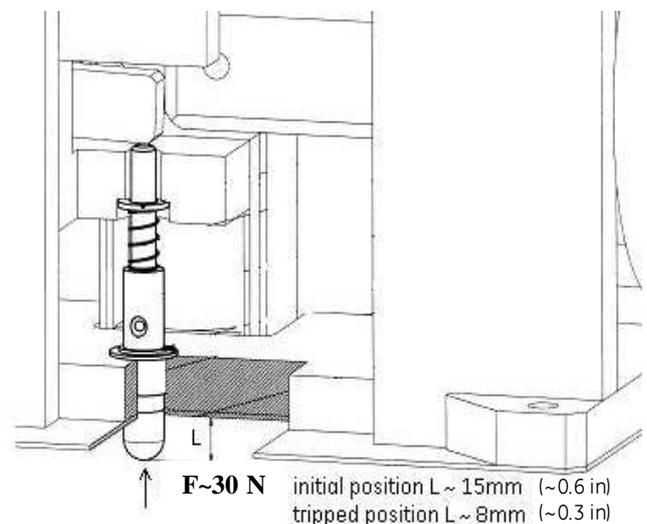

Fig. 10a Forced tripping release
- Optionally, the forced tripping release (FT) can be installed in the breaker [Fig. 10a]. This unit mechanically trips the breaker, by pressing the pin against the bottom plate. Force required to trip the breaker is about 30 N (~7 ft-lb). The tripping pin position is as on Fig. 10b.